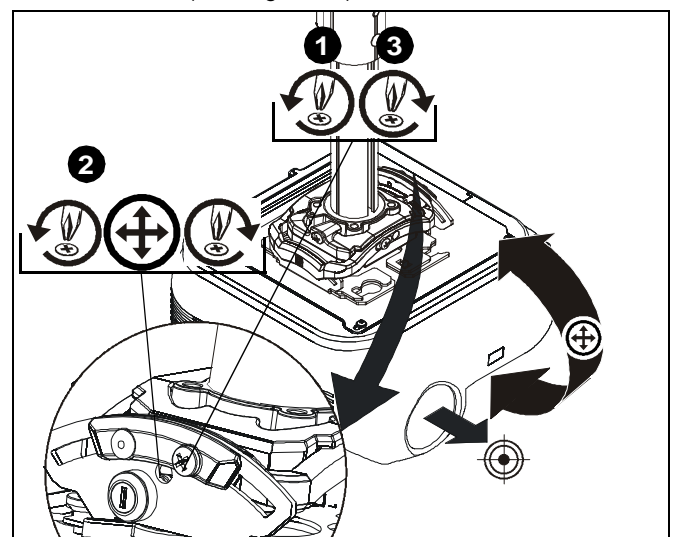

Figure 18
1. Loosen PITCH adjustment locking screw using a #2 Phillips screwdriver. (See Figure 18)
2. Turn PITCH micro-adjustment screw right or left using a #2 Phillips screwdriver until image is properly aligned on target. (See Figure 18)
3. Tighten PITCH adjustment locking screw using a #2 Phillips screwdriver. (See Figure 18)